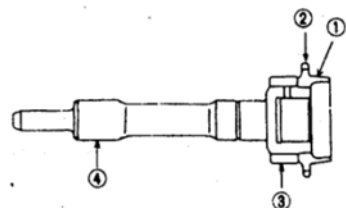

Fig.3.2-8
Examine whether there exists any wearing on the cone part ①, gear ring ②, gear tooth ③ and splines ④ according to Fig.3.2-8. If any serious problem occurs on any part of the first axle, a new axle must be replaced.